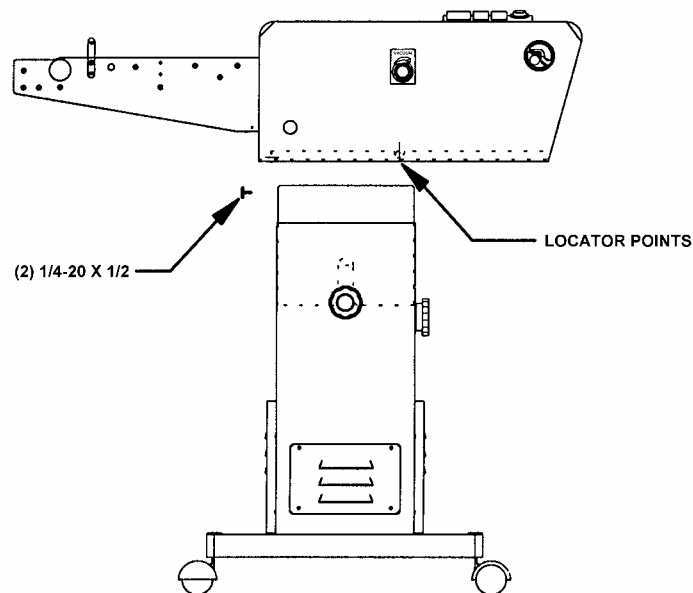

Figure 1
3. Place the feeder on top of the stand by locating the two mating points on the bottom of the feeder. [Fig. 1]
6. Install the two (2)  $\frac{1}{4}$ -20 x  $\frac{1}{2}$  inch thumbscrews provided in the accessory kit.